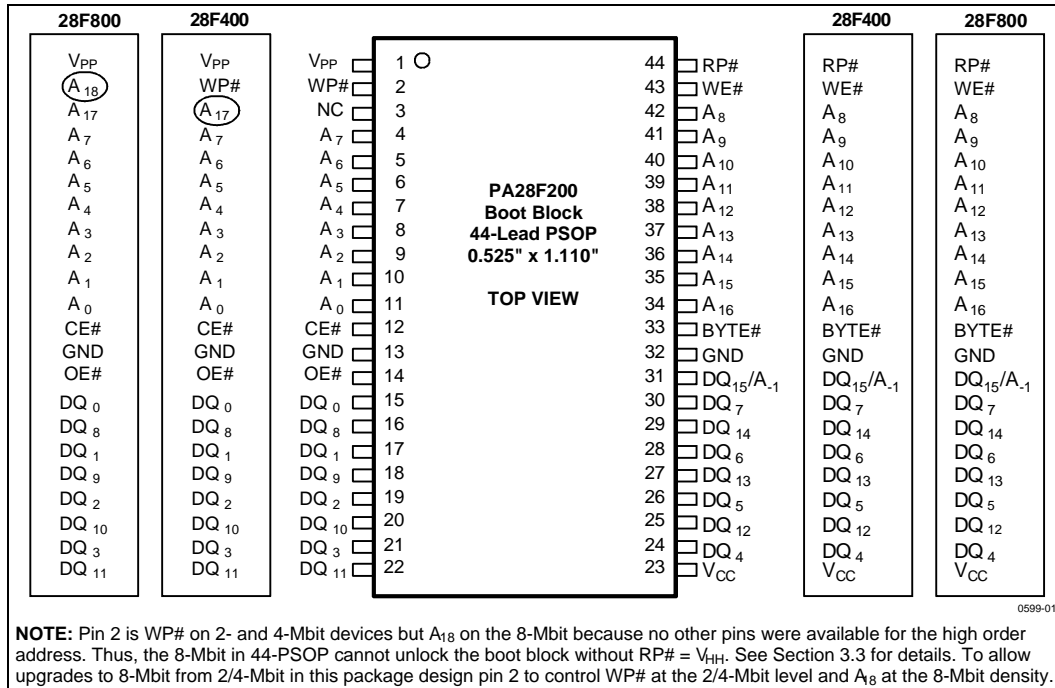
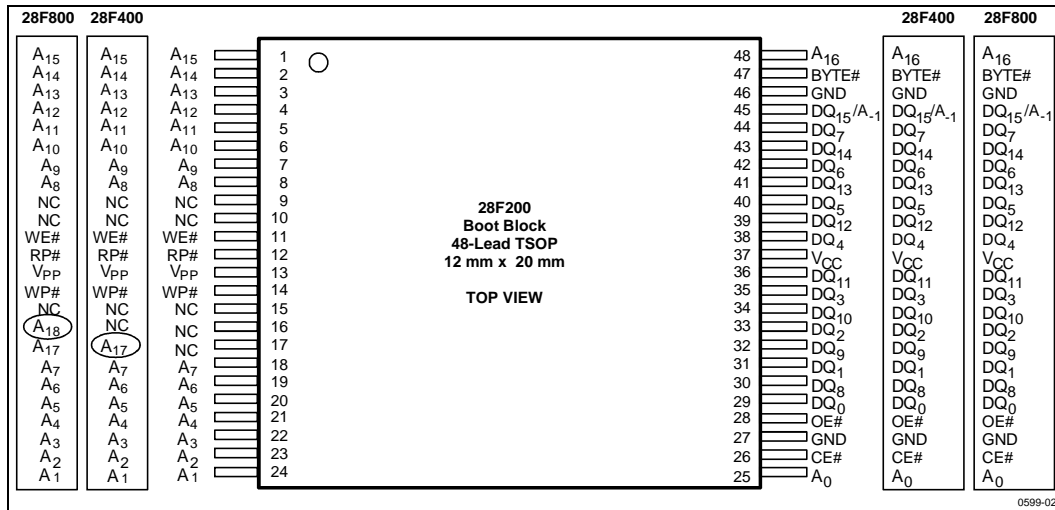

Figure 1. 44-Lead PSOP Pinout Diagram
Figure 2. 48-Lead TSOP Pinout Diagram
-002	Minor changes throughout document. Section 3.1.5 and Figure 13 redone to clarify program/erase operation abort. Information added to Table 2, Figure 1, and Section 3.3 to clarify WP# on 8-Mbit, 44-PSOP. Read and Write Waveforms changed to numbered format. Typical numbers removed from DC Characteristics and Erase/Program Timings.
-003	Minor text changes throughout document. Figure 1, 44-PSOP pinout: mistake on pin 3 on 2-Mbit pinout corrected from A 17 to NC. Specs t EHQZ and t GHQZ improved. Explanations of program/erase abort commands reworked in Table 6, Command Codes.
These Smart 5 memory products are available in the 44-lead PSOP (Plastic Small Outline Package), which is ROM/EPROM-compatible, and the 48-lead TSOP (Thin Small Outline Package, 1.2 mm thick) as shown in Figure 1, and 2, respectively.
Intel's Smart 5 boot block architecture provides upgrade paths in each package pinout up to the 8-Mbit density. The 44-lead PSOP pinout follows the industry-standard ROM/EPROM pinout, as shown in Figure 1. Designs with space concerns should consider the 48-lead pinout shown in Figure 2.